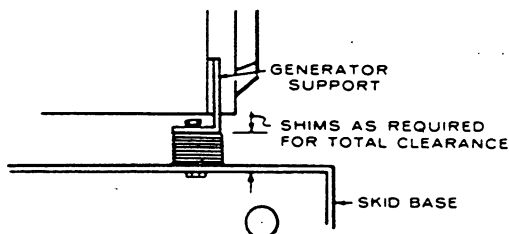

FIGURE 8
4. Remove the jackscrews and reinstall as mounting bolts through generator support, shims and skid base. Secure and lock the mounting bolts in place (Figure 8).